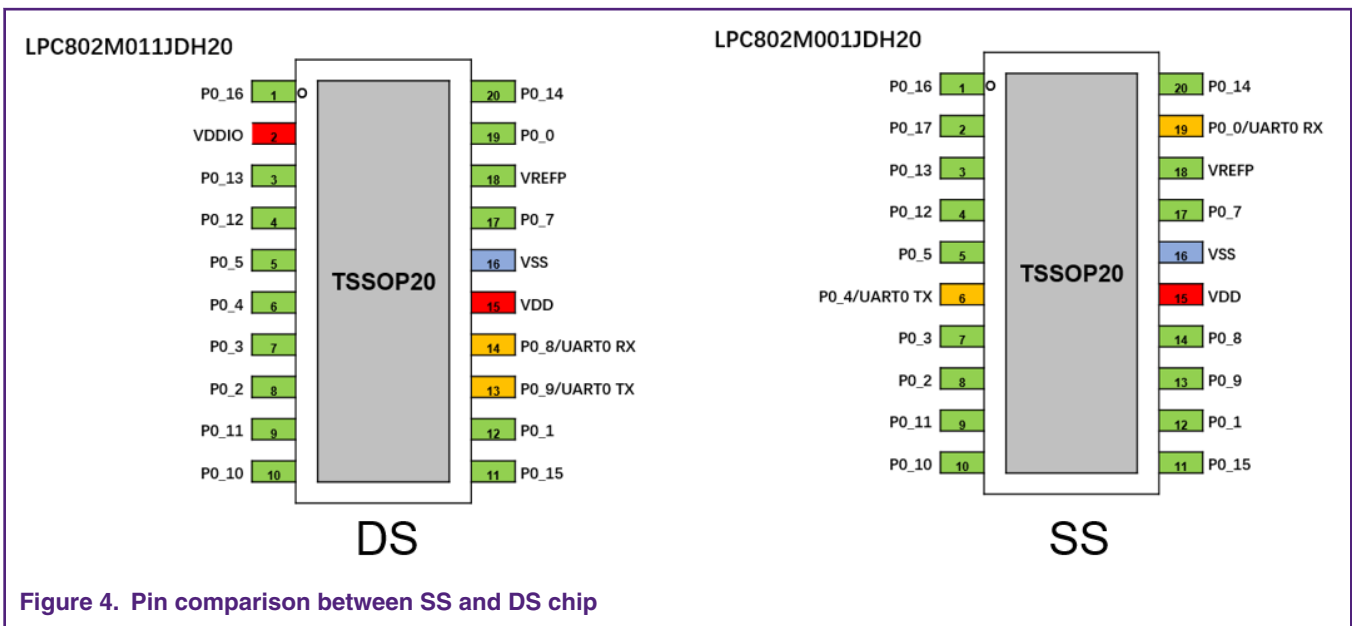

Figure 4. Pin comparison between SS and DS chip
Some functions assigned to pins are different between single power supply (SS) chip and dual power supply (DS) chip, See Figure 4. on page 2.